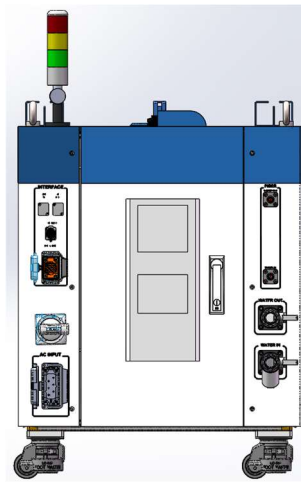

Figure 7 Rear Panel of RFL-C12000S-HP
Figure 7 shows the rear panel of RFL-C12000S-HP:
f) Click “OK” to confirm the settings and exit. See Figure 7 for details.